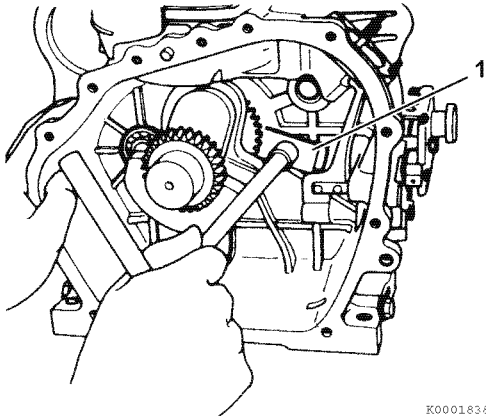

Figure 6-95
8. Position the bearing retainer plate (1, **Figure 6-95**) in the crankcase.